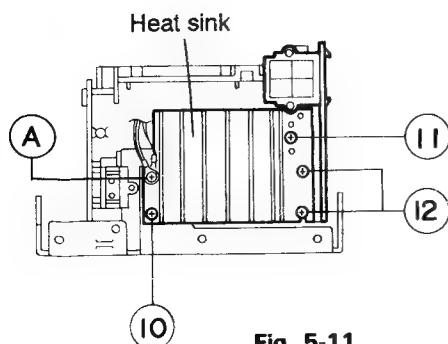

Fig. 5-11
5. Remove the screw ④ securing the heat sink to remove the ground wire from the LCD/System microcomputer board assembly (Fig. 5-11).
◆ Removing the power amplifier board (Fig. 5-11).
(Fig. 5-11).